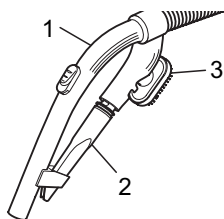

Fig. 5
■ The crevice nozzle and the furniture and upholstery brush are included as **accessories** in the scope of delivery. They can be secured to the accessories mount (Fig. 5/1).
- **Crevice nozzle (Fig. 5/2)**
- **2-in-1 combi-nozzle (Fig. 5/3) to be used as:**